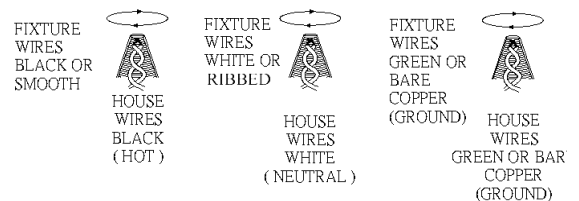

Fig.3
CONNECTING THE WIRES (FIG. 3)
21. At this point, connect the electrical wires as shown in Fig. 3 making sure that all wire connections are secured. If your outlet box has a ground wire (green or bare copper), connect the fixture's ground wire to it. Otherwise, connect the fixture's ground wire directly to the crossbar (P) using the green screw provided.
22. After the wires are connected, tuck them carefully into the ceiling outlet box. Raise the canopy (U) to the ceiling, then raise the lock collar (Y) and thread onto the ceiling loop (T) protruding through the canopy (U).